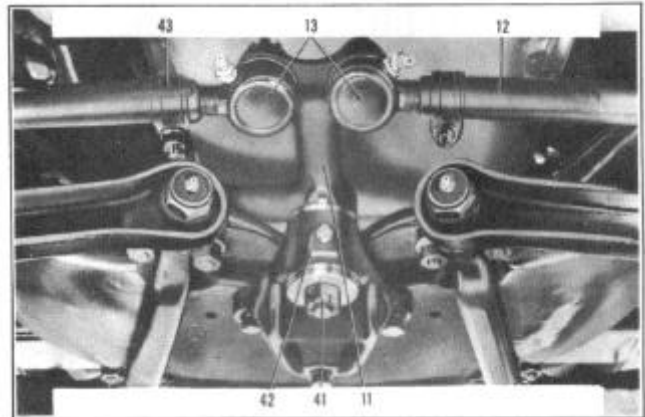

FIGURE 16
3. Remove the 3 bolts attaching the center steering arm bracket (42) to the No. 2 crossmember, Figure 16.
4. Remove the center pivot nut (41) and remove the steering center arm and pivot as an assembly.